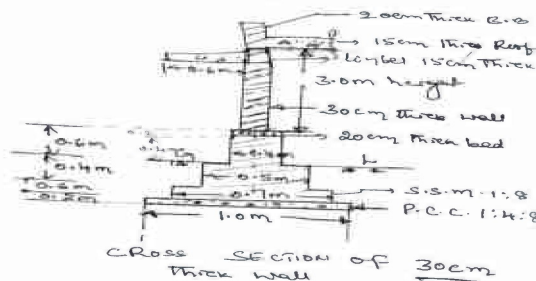

Fig. Q1
- 1 The details of Residential building is as shown in Fig. Q1. Estimate and cost of each item of work.